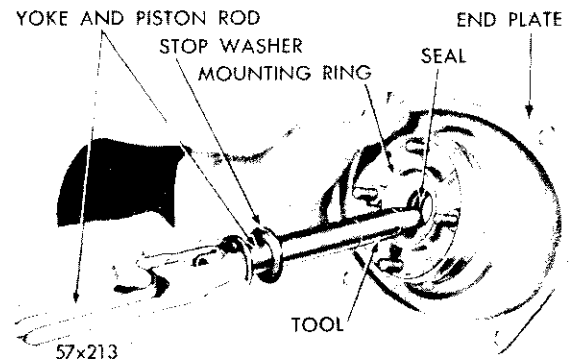

Fig. 66—Installing the Piston Rod through the Seal
(9) Slide the rubber stop washer over the piston rod and up against the steel washer. Place pilot, Tool C-3579, on end of the piston rod, and insert through the leather seal in the end plate, as shown in Figure 66. Remove the tool. Install the piston spring over the piston rod and down against the end plate.